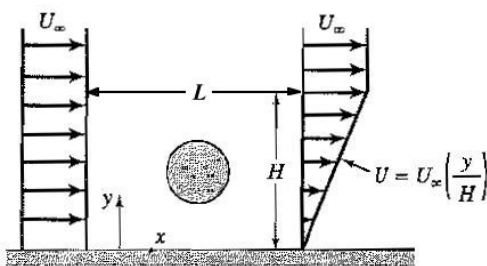

Figure P3.53
3.53 A cylinder of length W is located near a plane wall, as shown in Figure P3.53. The incoming flow has a uniform velocity U_∞ , and the downstream flow has a linear velocity profile $U = U_\infty y/H$. Assuming steady, constant density, constant pressure flow, find: